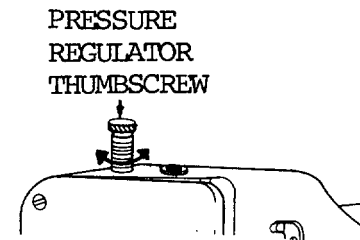

Figure 2-47. Pressure Regulator Thumbscrew.
- (2) Pressure adjustment. Figure 2-47 is used to set presser foot pressure, regardless of the setting of the adjust knob. It acts as a fine tuning device. If the pressure is too great and the material hangs up, turn the thumbscrew to the left (ccw). If the pressure is too light, turn the thumbscrew to the right (cw).